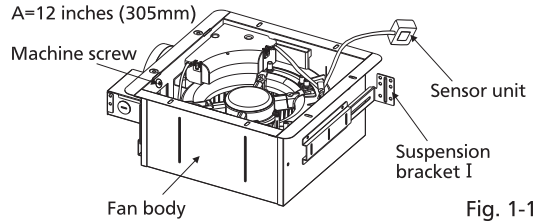

Fig. 1-1
1. Remove the machine screw (Fig.1-1) and keep it in a discoverable place.